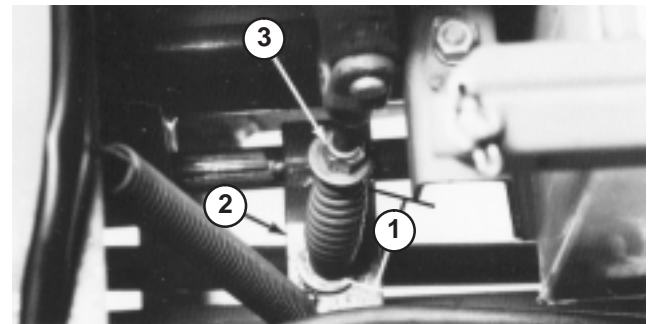

Figure 32
3. Measure length of PTO spring between flat-washers (Fig. 32). There should be a spring length of 3-3/16 in. (81 mm).
4. To adjust, hold head of adjusting screw with wrench (under PTO actuating arm) and turn locknut (Fig. 32).